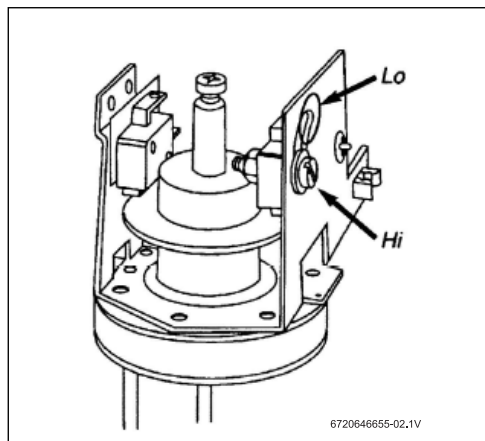

Fig. 5 Power selector screw
- ▶ Set the Power Selector Screw (Fig. 5) on the desired setting. If it is set to LO, only one heating element will operate and the output will be half power. See the →Table 4 on page 7 for temperature rise at various flow rates. If the element is set on HI, both heating elements will operate and the output will be full power. When setting the Power Selector Screw, it is important that the screw be adjusted all the way to the end of the slot and that it be well tightened.
The power selector screw not all the way to "HI".	Change the power select screw to "HI", →see Fig. 5 .